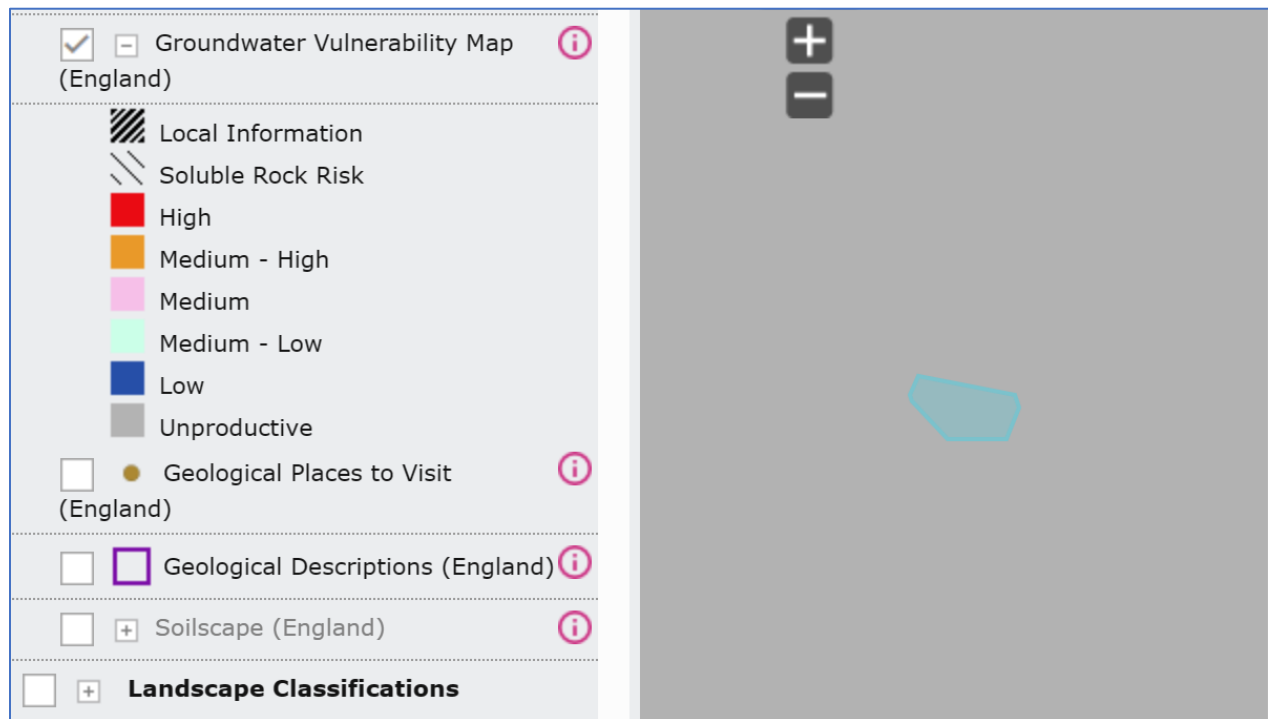

Figure 4 – Groundwater Vulnerability Map – Magic Maps (DEFRA)
However, the site is within a local flood risk zone, as shown in Figure 4. Goldhurst Terrace has flooded during flooding events of 1975, 2002 and 2021. Therefore, this localised flooding is caused by the combined sewer in this area being surcharged during extreme storm events, caused by surface water combined sewer network.
- For proposed developments located on a Previously Flooded Street, as presented within **Appendix A (Figure 4)**, Camden Council should consider setting as a requirement a minimum reduction in surface water runoff rates post-development to greenfield runoff rates. The intention of such a requirement would be to reduce surface water runoff and also reduce the strain on the combined sewer network.